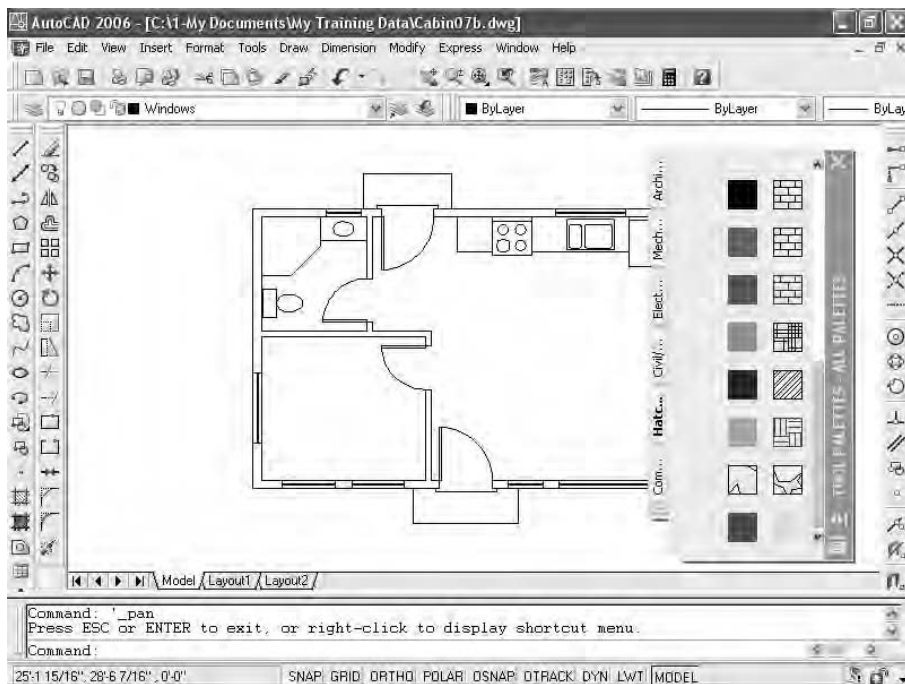

FIGURE 7.45: The palettes displayed on the screen
2. If palettes are not already visible in the drawing area, choose Tools > Tool Palettes Window to display the palettes (see Figure 7.45). They can be docked on either side of the drawing area, and the navigation bar can be on the left or right side.
docked there. Yours may be transparent, showing your drawing beneath it, or your palettes may be hidden and show only the title bar. In Figure 7.45, several tabs are on the left side, indicating the available palettes. On the right side is the palette title bar with control icons at the top and bottom.